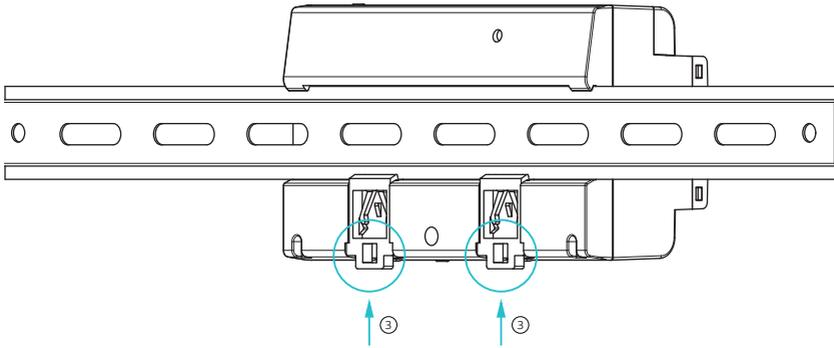

Figure 2-4 Lock Clips to Secure AcuDC-260 Series
3. Push the two clips back up ③ to securely lock the AcuDC-260 Series onto the DIN rail, as shown in Figure 2-4.